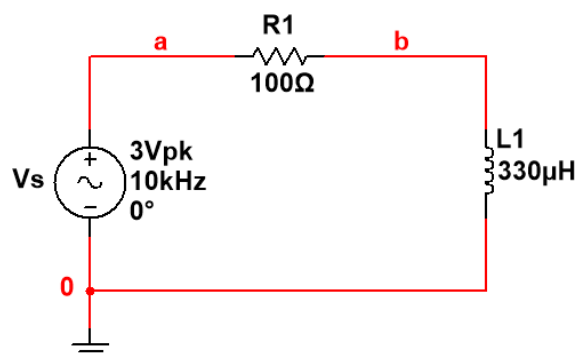

Fig.B.1.2: Series RL circuit
9. Now, replace the capacitor (C_1) with the inductor (L_1) to construct the circuit shown in **Fig.B.1.2**.